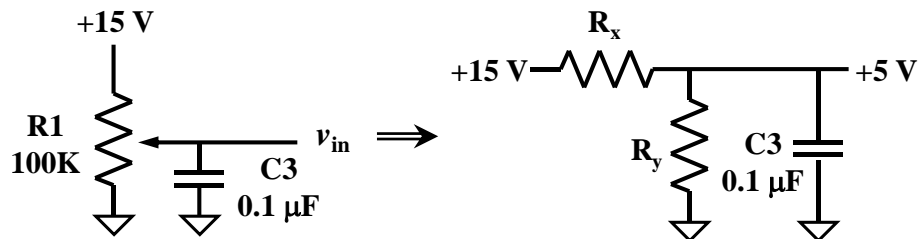

Fig. 8. Voltage divider and low-pass filter in circuit 5.
3. Circuit 5 uses a potentiometer as a voltage divider to derive 5 V dc from 15 V dc. R_x is on one side of the wiper and R_y is on the other, as shown in Fig. 8. C3 creates a low-pass filter that attenuates some of the interfering signals that can appear on the +15 V power supply.